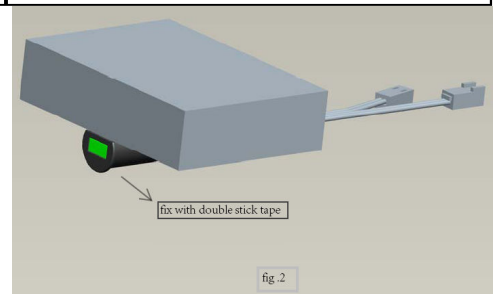

fig. 2
3. Alternatively, the IR sensor switch may be installed on the mounting surface with the included double stick tape. Ensure the input and output cable are kept close to the installation surface for protection from physical damage. Attention: The end face of the detector must be kept parallel with the edge of the installation surface. (see.fig2)